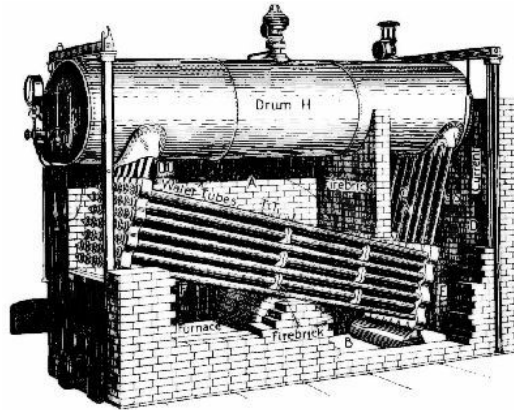

Fig. 7.—The Babcock and Wilcox water-tube boiler. One side of the brick seating has been removed to show the arrangement of the water-tubes and furnace.
To save room, boilers which have to make steam very quickly and at high pressures are largely composed of pipes. Such boilers we call multitubular. They are of two kinds—(1) *Water-tube* boilers; in which the water circulates through tubes exposed to the furnace heat. The Babcock and Wilcox boiler (Fig. 7) is typical of this variety. (2) *Fire-tube* boilers; in which the hot gases pass through tubes surrounded by water. The ordinary locomotive boiler (Fig. 6) illustrates this form.